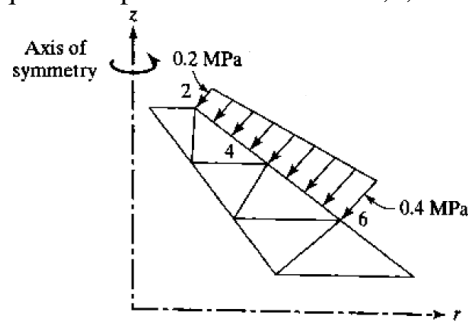

Fig.4
- 5 An axisymmetric body with a linearly distributed load on the conical surface is shown in fig.4 Determine the equivalent point loads at nodes 2,4, and 6. [15M]